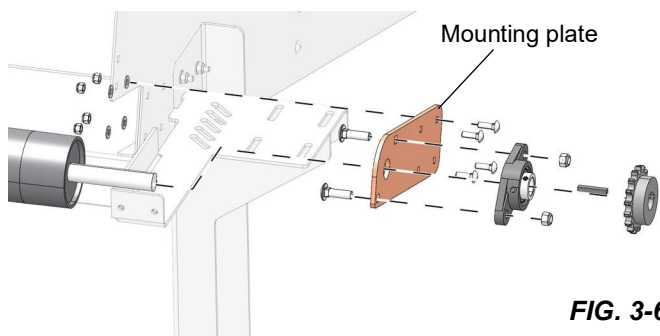

FIG. 3-6
5. Install the roller mounting plate on the motor side as shown in FIG. 3-6.